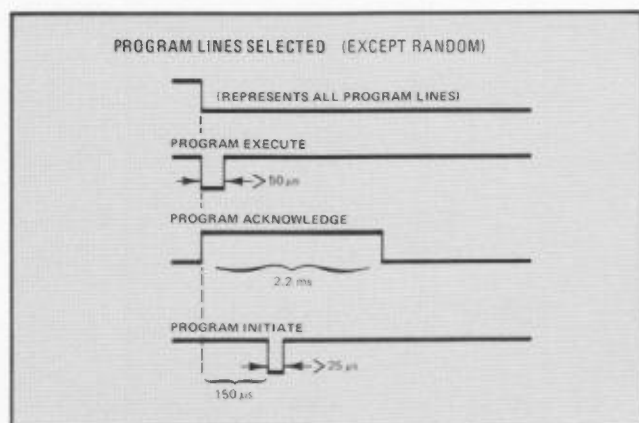

FIGURE 14
- PROGRAM INITIATE may be issued 150 μ s after PROGRAM EXECUTE without waiting for PROGRAM ACKNOWLEDGE to drop low. Exception: when FILTER "IN" was used and is being switched "OUT" or in the RANDOM mode. Refer to Figure 14 for an example.